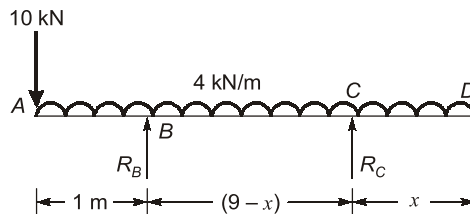

Fig. 4.1
- Q.1 A beam $ABCD$, 10 m long is supported at B , 1 m from end A and at C , x is from end D . The beam carries a point load of 10 kN at end A and a UDL of 4 kN/m throughout its length fig. 4.1. Determine the value of x if centre of the beam is the point of contraflexure. Draw the BM diagram.